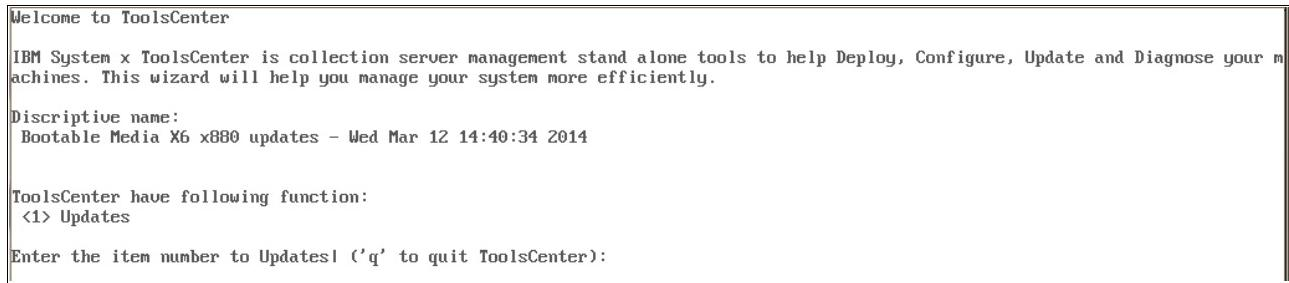

Figure 6-9 ToolsCenter initial menu
- To start running the tool to perform updates, reboot the server with the mounted media (CD, DVD, or IMM Virtual Media). This reboot launches a CLI or graphical user interface (GUI), as selected in the BoMC image build, to the Lenovo ToolsCenter Customized Media (unless Unattended Mode or Task AutoRun was configured). Figure 6-9 on page 123 shows the Lenovo ToolsCenter Customized Media menu.